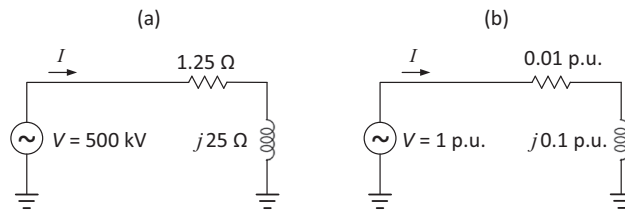

Figure 1.16 The parameters in Exercise 1.8: (a) regular representation; (b) per unit.
- 1.8** Figure 1.16(a) shows an AC circuit with a voltage source, a resistor, and an inductor. Figure 1.16(b) shows the same AC circuit but in per unit representation. The base values for voltage and impedance are $V_{\text{base}} = 500$ kV and $Z_{\text{base}} = 250\Omega$, respectively.